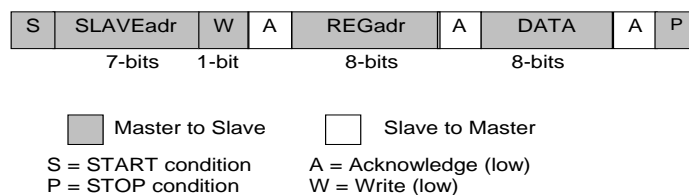
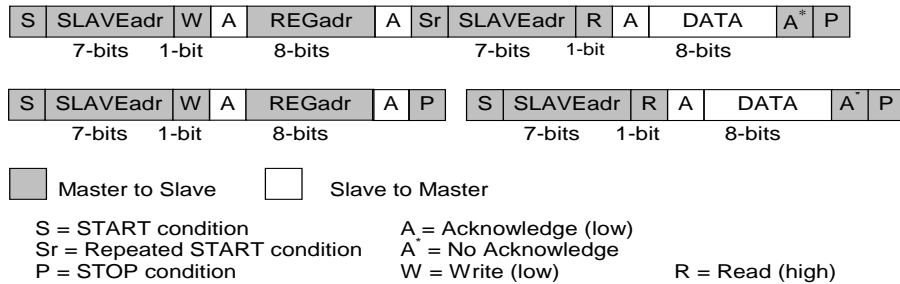

Figure 10: I²C Byte Write (SDA Line)
Figure 11: I²C Byte Read (SDA Line) Examples
The I²C bus is monitored for a valid slave address whenever the interface is enabled. It responds immediately when it receives its own slave address. The acknowledge is done by pulling the SDA line low during the following clock cycle (white blocks marked with A in Figure 10 and Figure 11).
The protocol for a register write from master to slave consists of a START condition, a slave address with read/write bit, and the eight-bit register address followed by eight bits of data, terminated by a STOP condition. DA9142 responds to all bytes with acknowledge (A), see Figure 10.
When the host reads data from a register it first has to write to DA9142 with the target register address and then read from DA9142 with a repeated START, or alternatively a second START, condition. After receiving the data, the host sends no acknowledge (A*) and terminates the transmission with a STOP condition, see Figure 11.